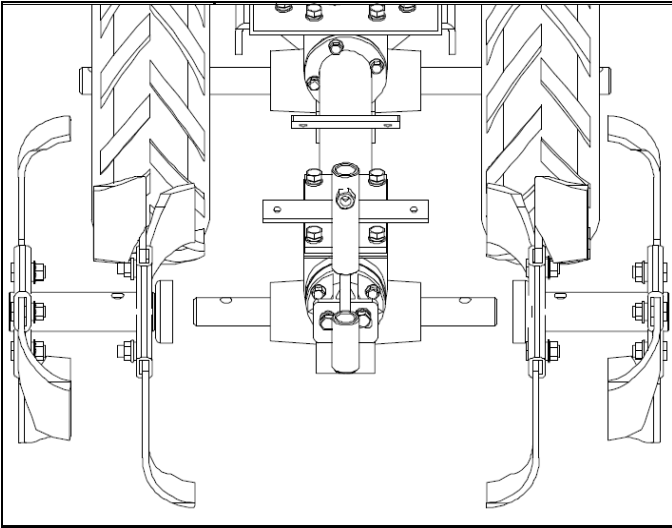

Fig. 2
**STEP2 Install the tine extension (Fig.2~4)**